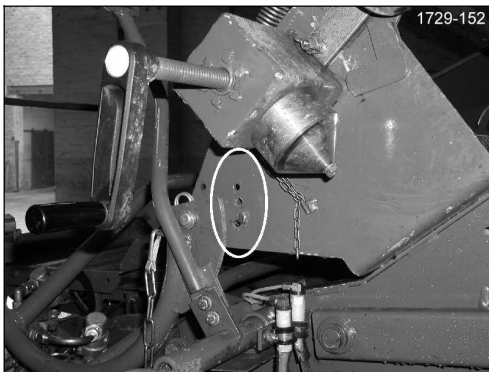

Figure 37
- ❑ Net roll with net length 3,000 m: Mount net roll plate in lower position (bottom thrill hole in Figure 37).
- ❑ Net roll with net length 2,000 m: Mount net roll plate in medium or upper position (centre or top thrill hole in Figure 37).
If the tips of the tensioning spindle do not point into the sleeve but onto the net material the height of the net roll plate must be corrected accordingly (Figure 37).